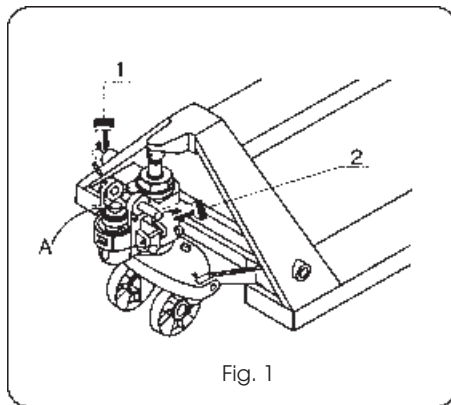
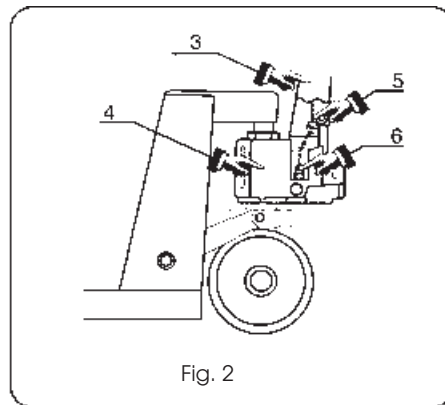

Fig. 1
Fig. 2
1. Remove one roll pin, item 1, Fig. 1 (24) from shaft, item 2, Fig. 1 (23) and keep safe for reuse later.
2. Remove shaft from pump body item 4, Fig. 2.
3. Insert Handle tube with warning label on top and trigger on R/H side, item 3, Fig.2 (8) at position A, Fig. 1, **Note ; handle needs to be held at an angle of approx 45° in order to fit the shaft**, connect handle tube to pump body by sliding the shaft, item 2, Fig. 1, back into pump body and handle tube.
5. Pass the roller chain, item 5, Fig. 2 (10), through the centre hole in shaft, Locate nut into slot of lever plate, item 6, Fig. 2 (52).